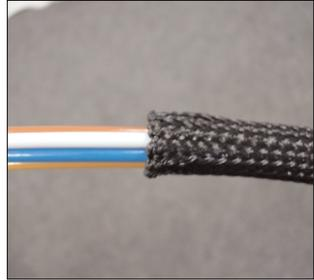

Fig. 33
- Group the first 6 buffer tubes to be spliced and fully insert them into one of the smaller mesh sleeves enclosed in the ship along hardware. This will help to control the bundle while routing and storing (Fig. 33).